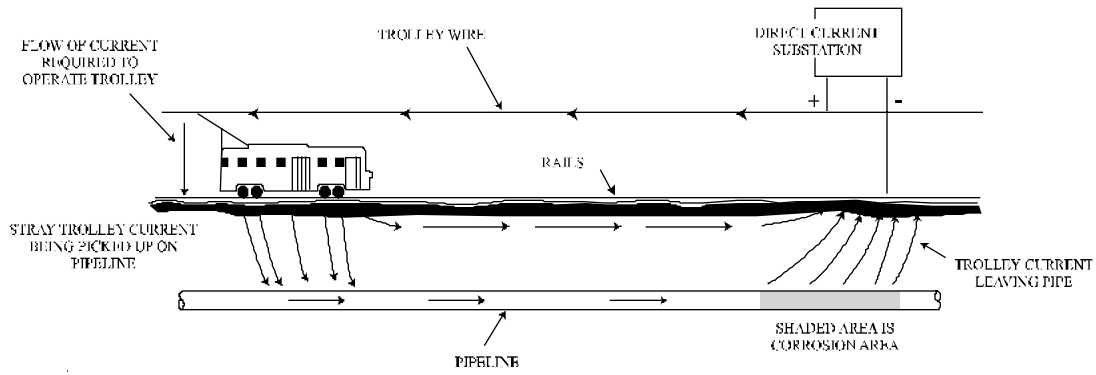

Figure VIII-9
**Stray current** - Current flowing through paths other than the intended circuit. (See Figure VIII-9.)